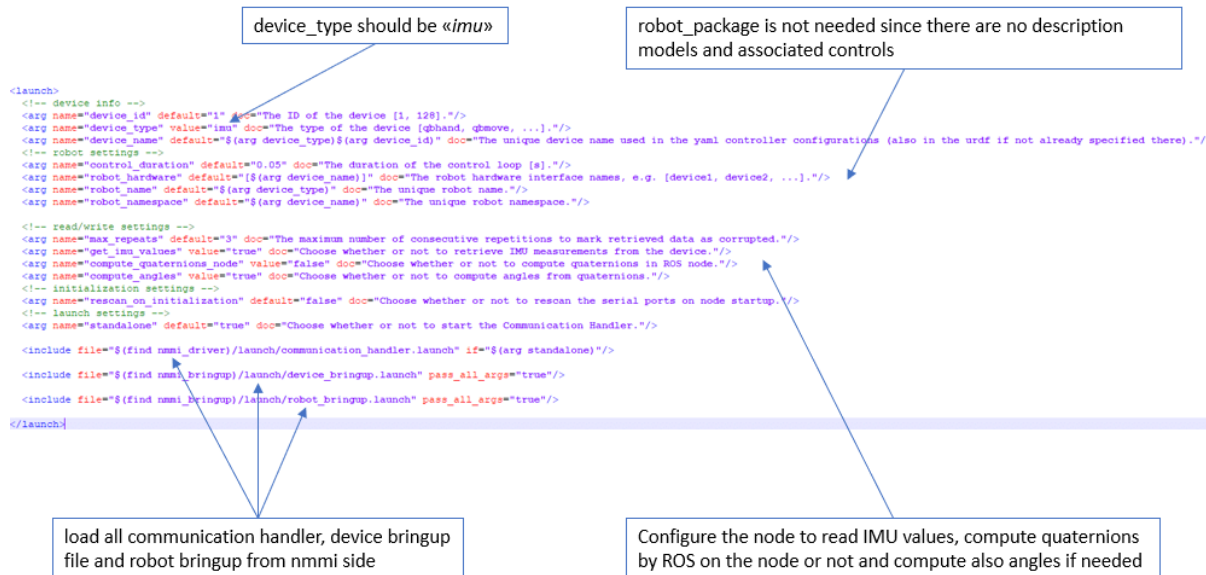

Figure 37: IMUs reading example launch file
- *IMU_board_single.launch*: configured for a board or device able to read IMU (see Figure 37)